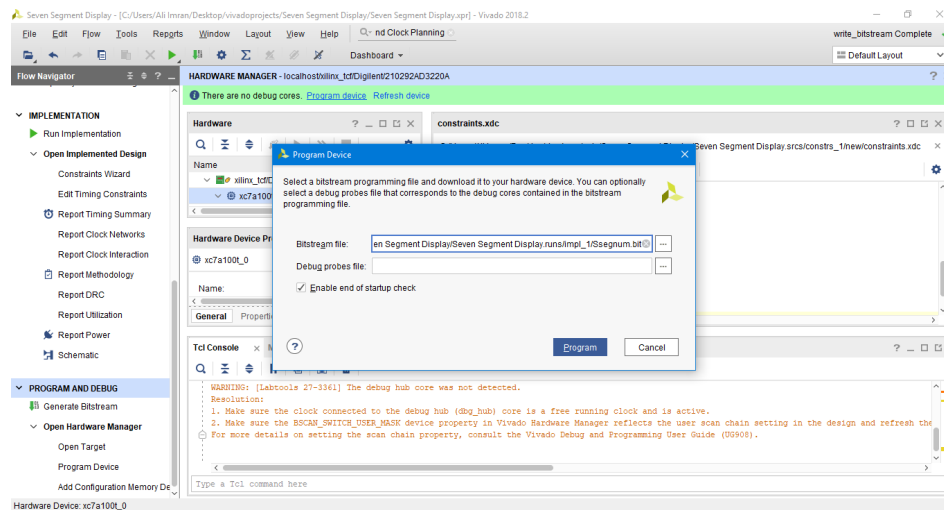

Fig. 2.10: Programming the Bitstream on the FPGA.
2. Vivado will take a few seconds connect to the FPGA. Once done, click on *Program device* from there a dialog box appears and click on *Program* to program your FPGA (Fig. 2.10).